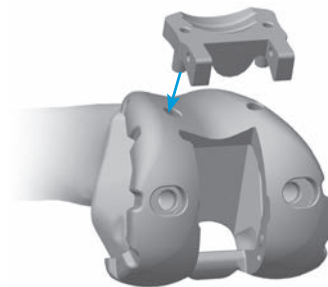

Fig. 78b
- By hand, insert and hold the correct-sized PS Box Cut Guide into the anterior holes of the PS Femoral Provisional (Fig. 78b). For additional fixation of the fully seated PS Box Cut Guide, insert the 25mm x 3.2mm screw (2.5mm female hex) with the 2.5mm Male Hex Driver through one of the holes in the PS Box Cut Guide. Separate PS Box Cut Guides exist for the PS Femoral Provisional for sizes 1-2, 3-5, 6-9, and 10-12.